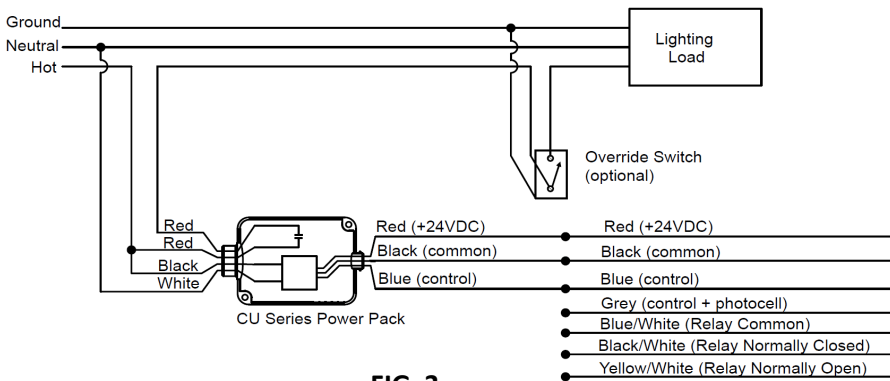

FIG. 3
INSTALLATION OF SENSORS Fig. 3
3. Run 3 conductor low voltage cable (18 to 22 AWG type CL2, CL2P, CL2PR, or CMR as appropriate) from control unit to sensor location(s) per wiring diagram fig 3. Maximum cable length between power unit and farthest sensor is 250 feet (76 meters).